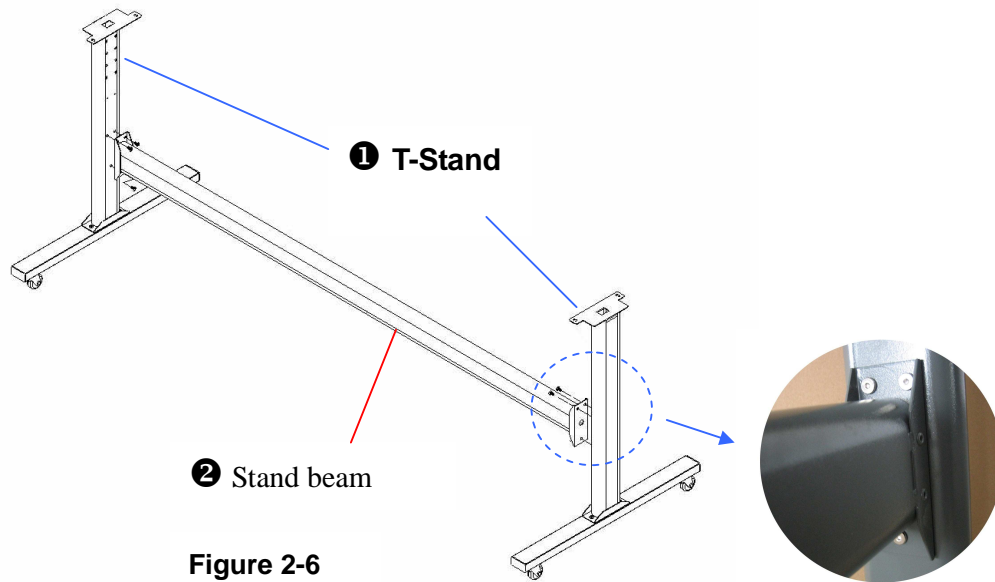

Figure 2-7
Position the stand beam perpendicularly to part **①** and put the screws into the holes and tighten them as Figure 2-7. Then the complete picture of stand will be like Figure 2-6.